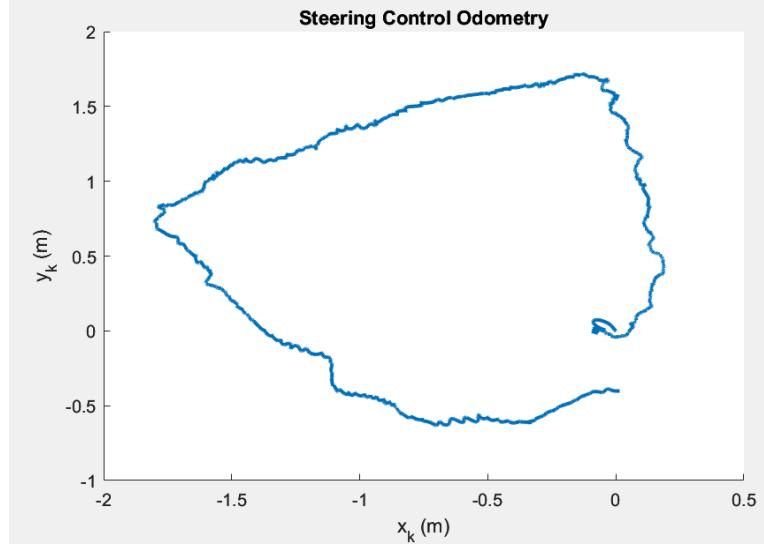

Figure 6. Ball Odometry Driving a 2m x 2m Square
When comparing our ball's odometry to actual position, we used our steering control to drive the ballbot in a square approximately 2m x 2m. In order to determine the robot's odometry, we recorded the ball's angular position (φ_x and φ_y) during the steering control. φ_x and φ_y are calculated based on a kinematic conversion from the wheel rotation (ψ_1, ψ_2, ψ_3). The ballbot's wheel rotation angles are determined based on encoder readings on each of the wheels. Using the equations (1) $x_k = -r_k * \varphi_y$ and (2) $y_k = r_k * \varphi_x$, with $r_k = 0.121\text{m}$ (the radius of the ball) we are able to calculate the ballbot's odometry. Figure 6 plots the ballbot's odometry when driving in a square.
As seen in the figure, the ball's odometry shows a lot of drift from the actual position relative to the start. This discrepancy is due to accumulated odometry error over time. The odometry is computed entirely from wheel encoder measurements. Any small error in the encoder readings or kinematic conversions from wheel rotations to ball angles accumulates overtime. Minor inaccuracies can cause drift, resulting in a lopsided or skewed square, like seen in Figure 6.